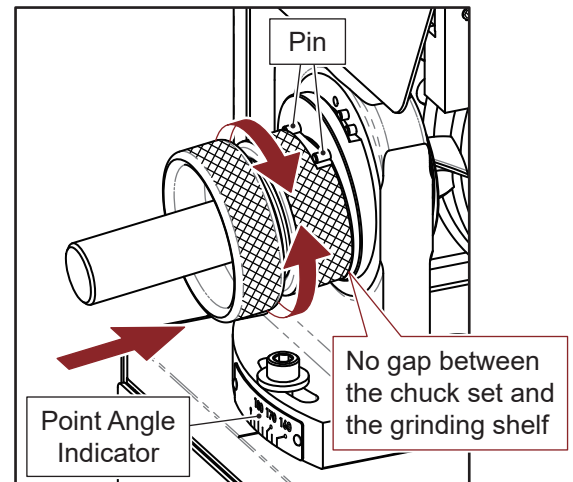

Fig. 10-1
1. Cutting Lip Grinding (Fig. 10-1)
- ① Insert the chuck set into the cutting lip grinding shelf, align the slot of clamping-nut to the two pins on the grinding shelf, push the chuck set gently and turn it clockwise and counterclockwise until the grinding noise stops.
- ② Take the chuck set out, turn it to the other side and grind the drill in the same way.